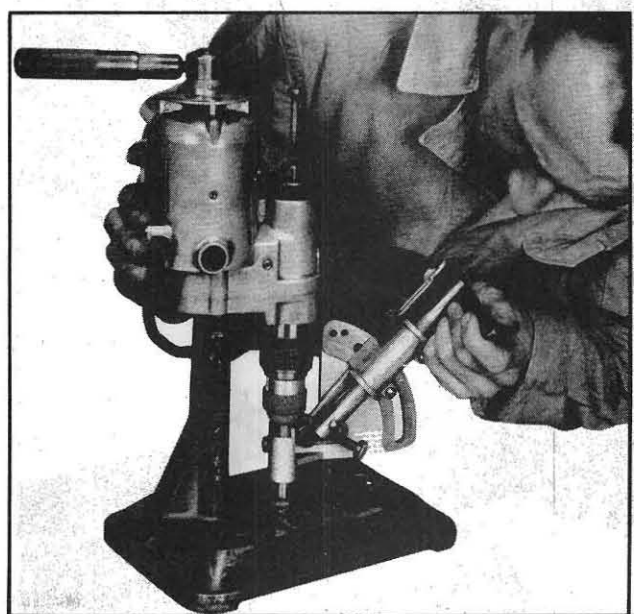

Fig. 42
2. Unless the seats are in extremely bad condition, a fine grit seat dressing stone should be selected and dressed on the special fixture provided, see Fig. 42. Take very light cuts across the face with the diamond dressing tool and remove only enough grit to true the face. If the diamond is moved slowly across the face, a smoother surface will result which is a desirable condition.